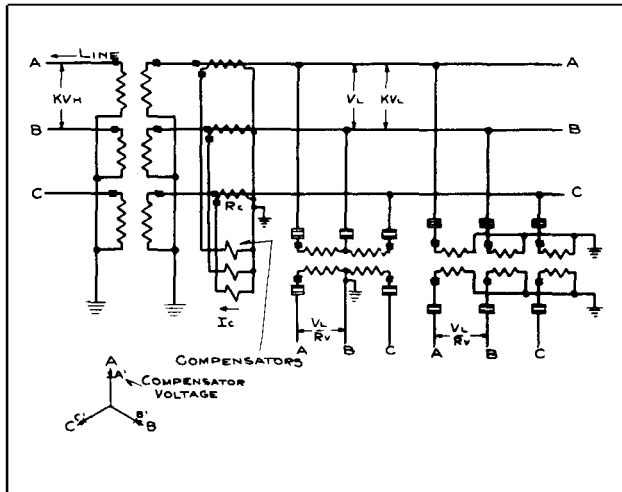

Fig. 4—Schematic Compensation Diagram for Star-Star (Or Delta-Delta) Connected Power Transformer Banks.
In this case the compensators are connected in star to star-connected low voltage current transformers as shown in Fig. 4. Then the compensator current is,
By definition the percent impedance of the power transformer is the percent voltage drop across the bank at unit current. As shown in the vector diagram of Fig. 4 the compensating voltage is in phase with a star current. Therefore, the voltage drop across the bank at unit current (in this case  $I_C$ ) in terms of the star relay voltage is,
(Similar to Fig. 4 except compensation current transformers on high voltage side of bank). This is the same as the case above except equation (1) is in terms of  $KV_H$  instead of  $KV_L$ . Therefore, for star-star connected power transformers with star connected compensators on the high voltage side, the following formula applies:
circulating current in the delta which does not pass thru the current transformers. This is not important in applying relays for phase fault protection. The voltage appearing across the terminals L and T of the compensators is proportional to the difference between two equivalent power transformer current. The delta voltage AB is obtained from the voltages of the two transformers A and B, and it must be compensated by the drop in each of the two transformers. The star-delta auxiliary potential transformers provide voltages corresponding to the high tension voltages in phase position, but uncompensated in magnitude. Current A" feeding the A compensator is related to  $I_A = I_C$  and current B" feeding B compensator is related to  $I_B = I_A$ . The compensators add the two voltages appearing across their terminals. Since the voltage path from A' to B' traverses the L and T terminals of the two compensators in opposite directions, the total compensated voltage is proportional to  $3 Z I_A$  if  $I_A + I_B + I_C$  is equal to zero. If  $I_A + I_B + I_C$  is not equal to zero, there is a circulating current in the delta which will cause equal and opposite drops in transformers A and B so the delta voltage is still correctly compensated. Combining these compensator voltages with the low tension star voltages as shown, gives the compensated delta voltages for the relays. Thus, the compensated relay voltages from the vector diagrams are  $E_{A'C}$ ,  $E_{C'B}$ , or  $E_{B'A}$ . This method of compensation should be used only when delta relay voltages are required as the voltages A', B' or C' to ground are not the true phase-to-ground compensated voltages as they are in Figs. 4 and 6.